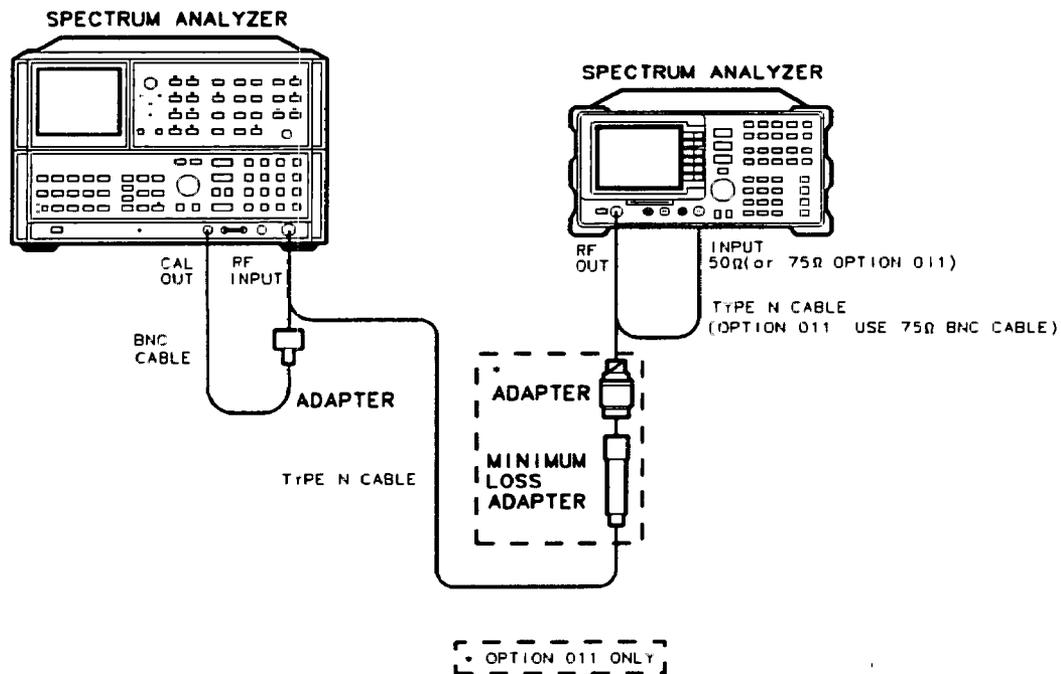

Figure 3-25. Harmonic Spurious Outputs Test Setup
1. Connect the Type N cable between the RF OUT 50 Ω and INPUT 50 Ω connectors on the HP 8590B spectrum analyzer. See Figure 3-25.
7. Connect the Type N cable from the tracking generator output to the HP 8566A/B RF INPUT. See Figure 3-25.